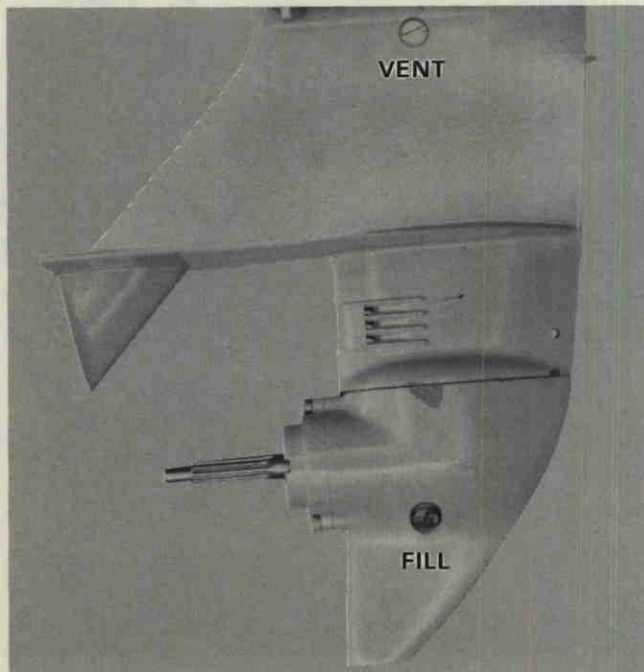

Figure 2. Location of Vent and Fill Plugs.
- A. Loosen, DO NOT REMOVE, gear housing, fill plug. Figure 2.
2. Remove vent plug. Lubricant level should be even with bottom of vent hole. Figure 2.
1. Remove fill plug and washer and insert nozzle of tube into fill hole. Figure 2.